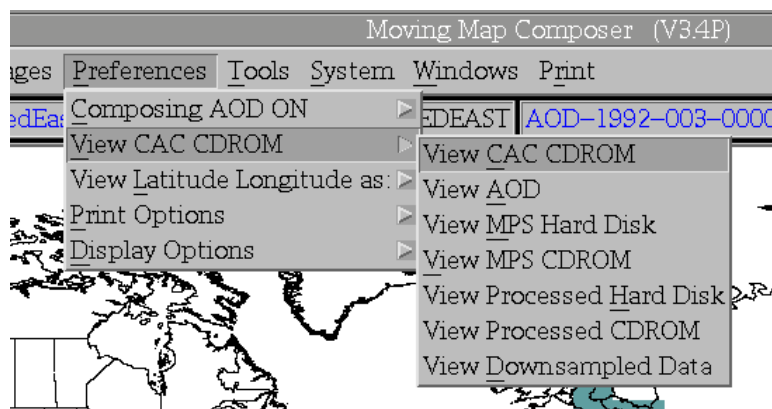

Fig. 18 – View chart data preferences
- b. To check that MMC will view the map data from the AOD image, click on *Preferences*, then *View CAC drop-down list* (Fig. 18), and verify that *View AOD* is selected. MMC should set the correct view type to the current map image by default.
- b. To check that MMC will view the map data from the MPS image, click on *Preferences*, then *View CAC drop-down list* (Fig. 18), and verify that *View MPS Hard Disk* is selected. MMC should set the correct view type to the current map image by default.